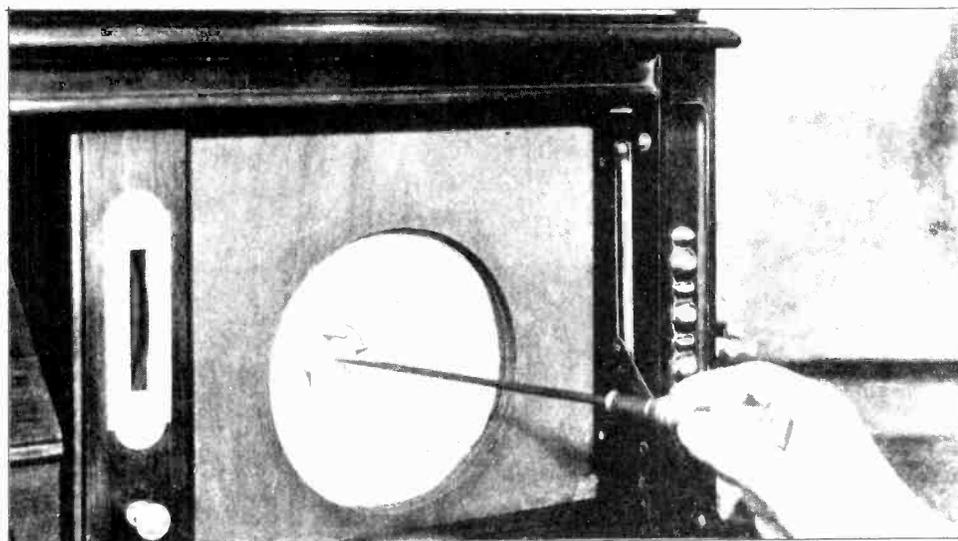

Figure 14—Method of adjusting the cone. Note the three pieces of cardboard used in centering the cone
(c) Insert three small strips of cardboard about $\frac{1}{4}$ " x $1\frac{1}{2}$ " and the thickness of a visiting card, in the space between the inside of the cone coil and the pole piece of the pot magnet. These pieces of card should be placed in the center of the small slots in the webbing of the centerpiece of the cone. They just hold the cone so that it is evenly spaced on all sides. Figure 14 illustrates this operation in adjusting the cone.
- (h) Now insert three small strips of cardboard about $1\frac{1}{2}$ " x $\frac{1}{4}$ " and the thickness of a visiting card—through the center web of the cone into the space between the pole piece and cone. This will cause the cone coil to have the same clearance on all sides of the pole piece. Figure 14 shows this operation, but with the pot magnet in its position in the cabinet. Refer to Part II Section 3.
(4) REPLACING DIAL SCALES